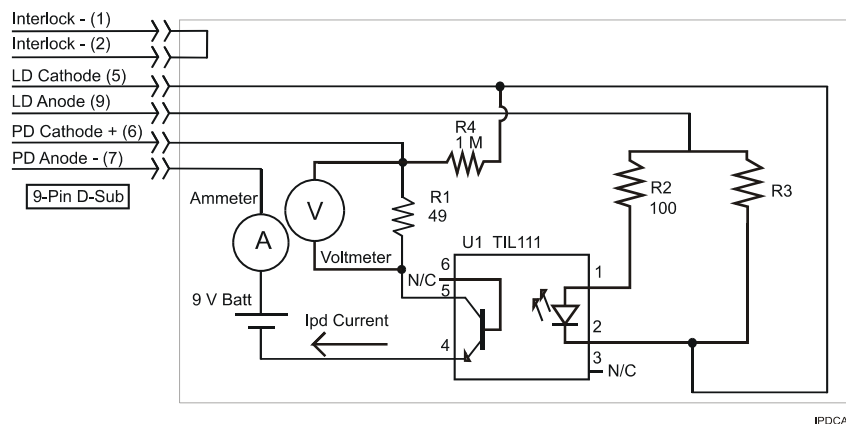

Figure 5.1 I_{PD} Calibration Circuit
You must connect various loads and circuits to the outputs of each controller for the calibration procedure. A schematic is shown in Figure 5.1 for the photodiode calibration circuit with the required components listed in Table 5.2 on page 133. Also, the devices required for other calibration loads are listed in Table 5.2.
PHOTO-DIODE MONITOR CALIBRATION (See schematic in Figure 5.1 on page 132)
- 2 With the LASER output off, connect a calibrated ammeter to the PD Anode output of the Laser Controller output connector (9 pin on rear panel), and connect the circuit of Figure 5.1 on page 132 to the LASER and PD outputs with the correct load resistor for the controller model you are calibrating (See Table 5.2 on page 133).